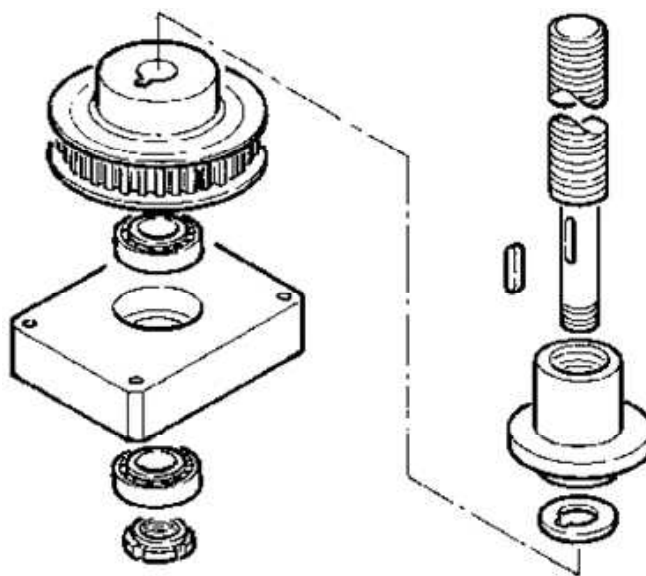

fig. 4.13
- Remove the self-locking nut so as to release the screws and auger from the parts (fig.4.13).